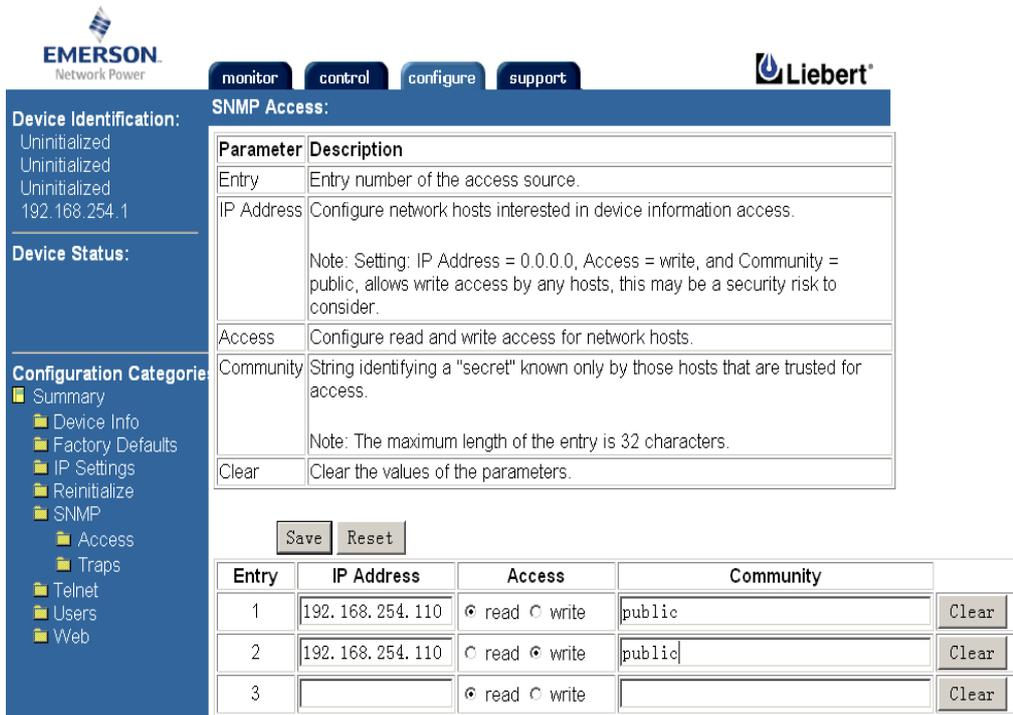

Figure 6-12 NMS configuration interface of SNMP host monitoring center (1)
4. Configure the Network Management System (NMS) of the host monitoring center in Figure 6-12. Click **Edit** and type the IP address of the NMS in **IP Address**. Select **read** or **write**, type 'Public' in **Community** and then click **Save**.